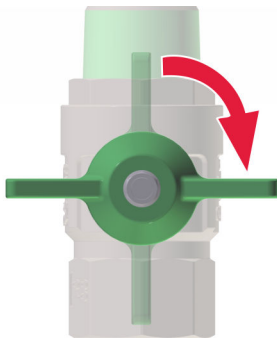

Fig. 47: Closing the ball valves
1. ➤ Close all the ball valves (Fig. 47).